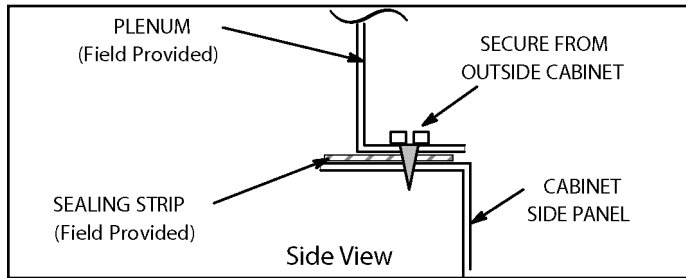
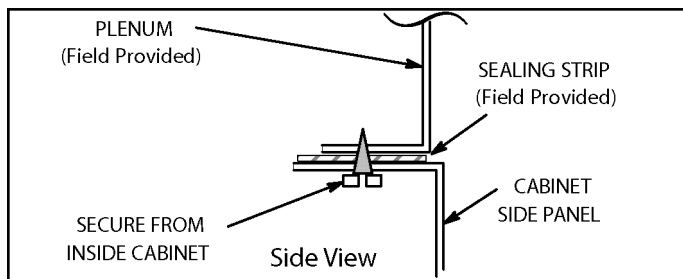

Figure 11.
Figure 12.
1. Bottom edge of plenum should be flanged with a hemmed edge (See Figure 11 or Figure 12).